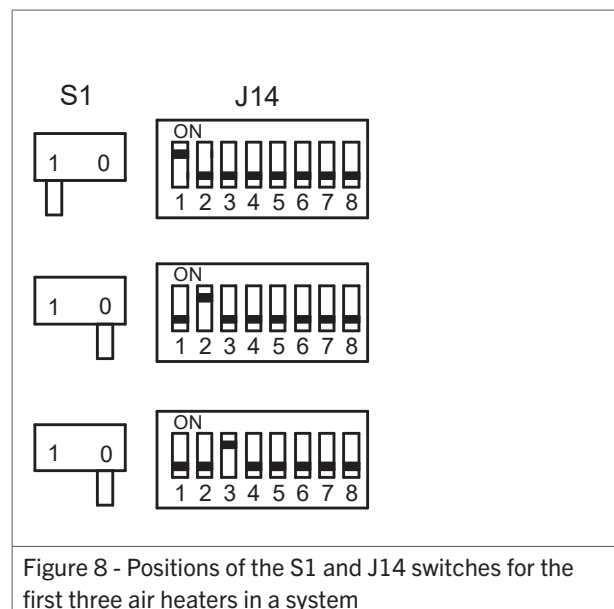

Figure 8 - Positions of the S1 and J14 switches for the first three air heaters in a system
1. Set the S1 and J14 switches on the control unit as follows (figure 8):